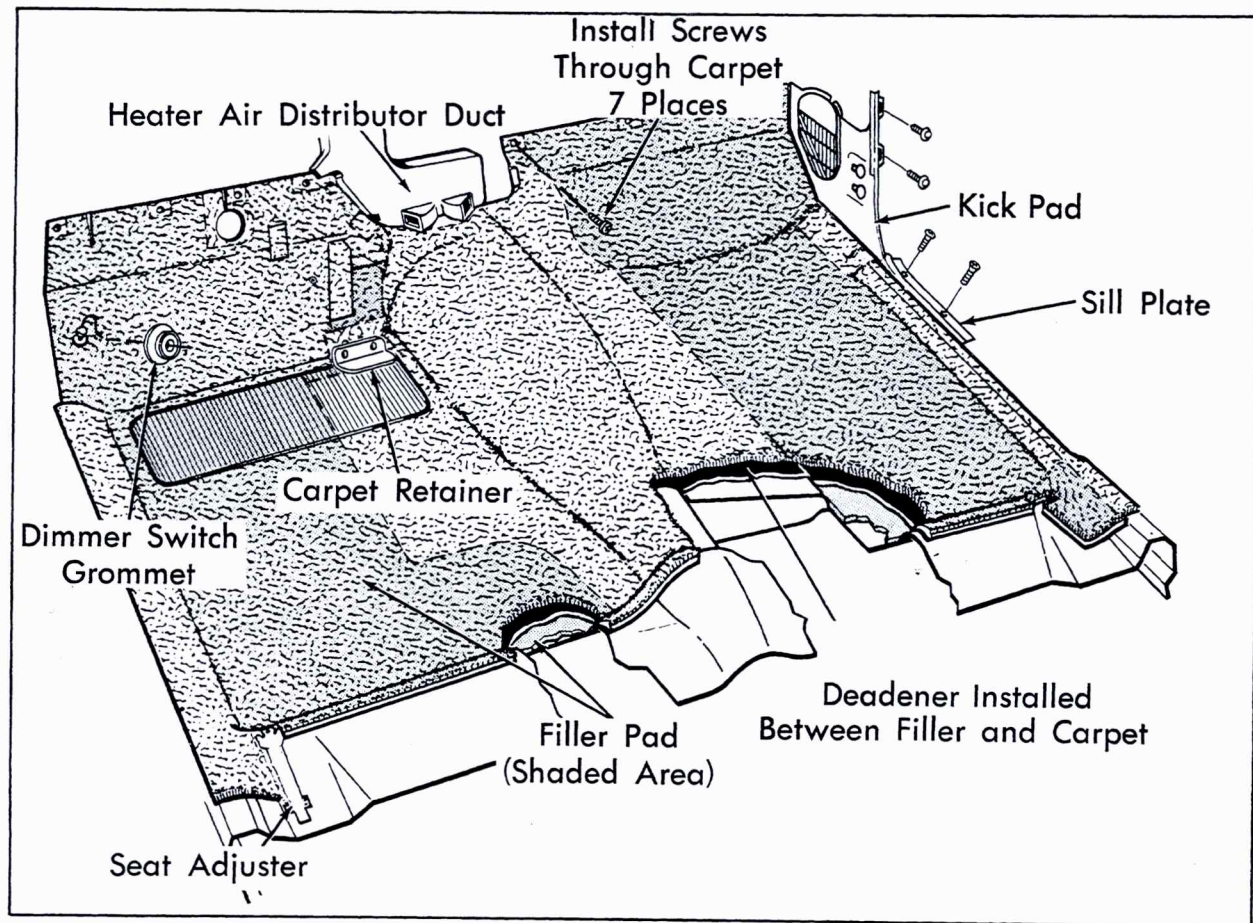
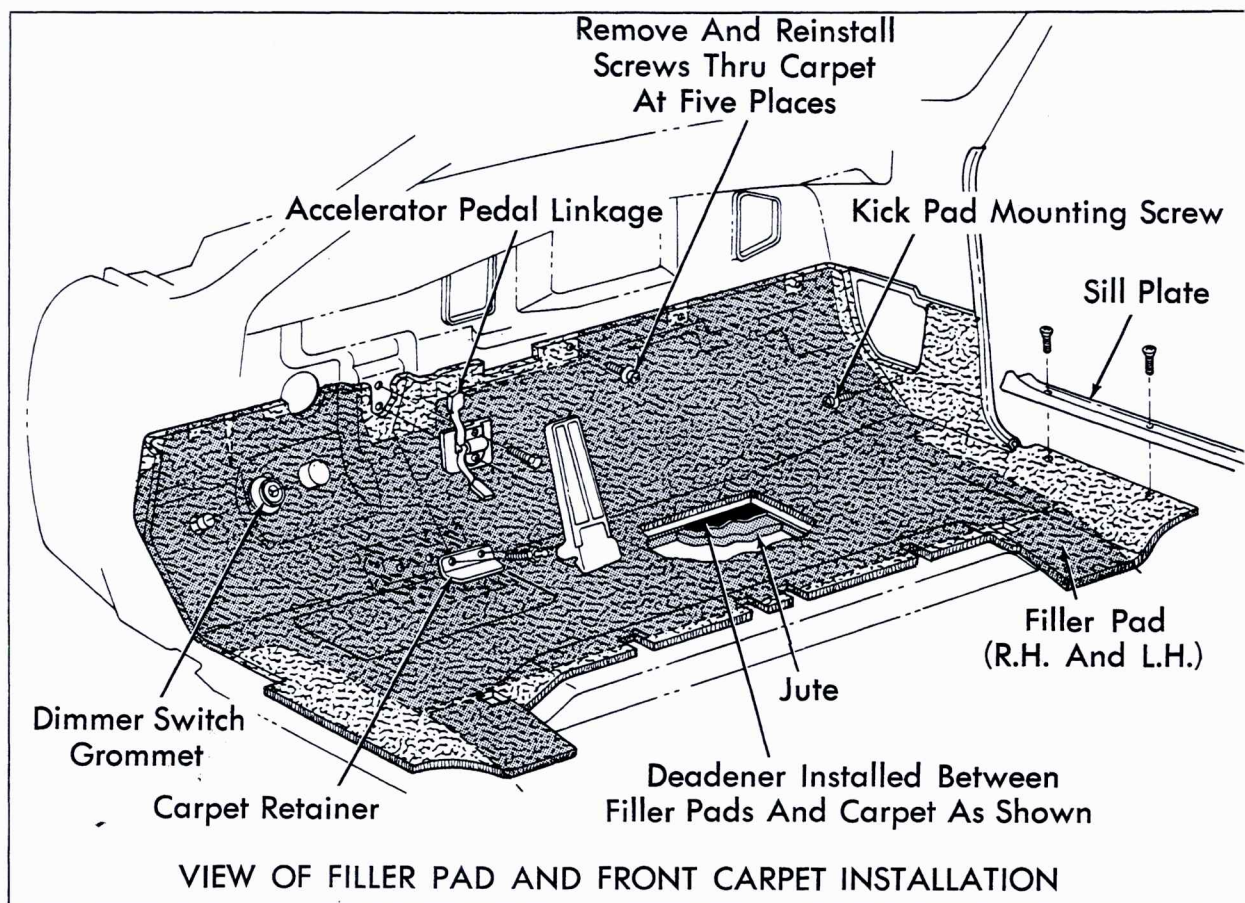

Fig. 0-20 Installing Front Carpet - Except 693
Fig. 0-21 Installing Front Carpet - 693 Only
5. Position filler pads to floor pan, as shown in Fig. 0-20 (all except 693), and Fig. 0-21 (693 only).
11. Install carpet retainer; see Fig. 0-20 and 0-21. Screws must go through carpet.